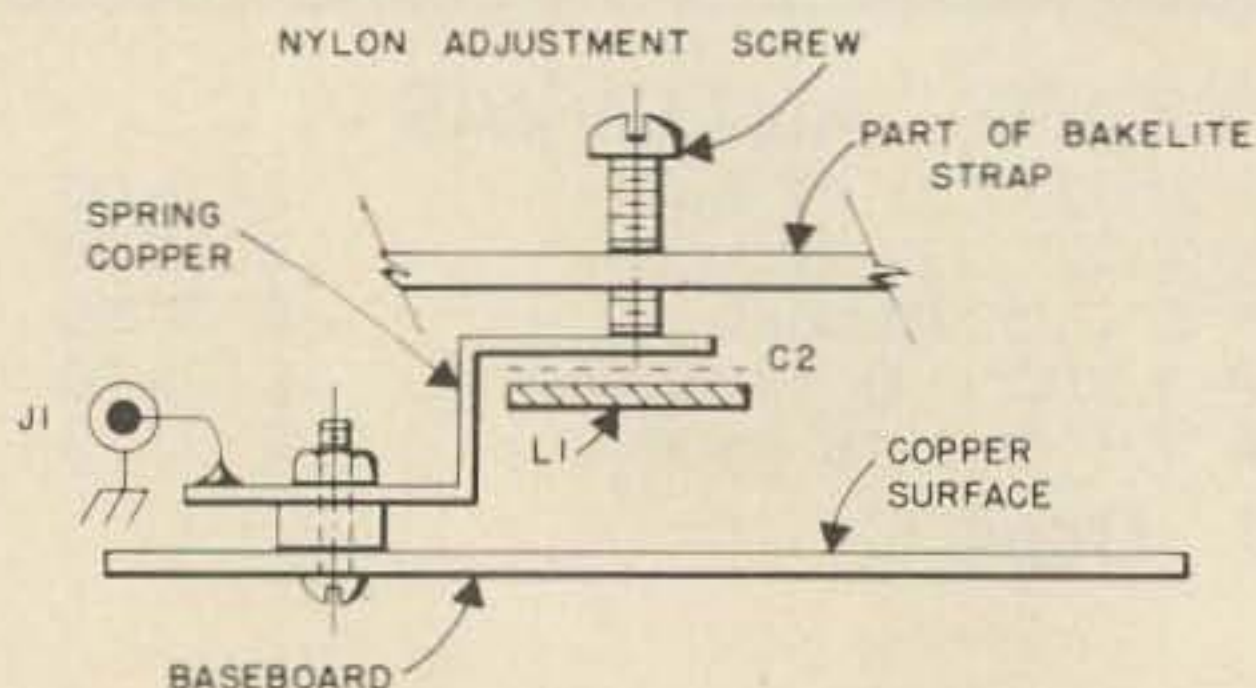

Fig. 1C. End view of the 1296 MHz receiver and C1 detail.
other insulating strap that uses two bolts, as in detail in Fig. 1C.
3. C1 should be made up with care, as in detail shown in Fig. 1C, keeping in mind that the inductance of the movable tab part of C1 should be as low as possible. You could use penny tuning between the baseboard and L1 but that gets more involved mechanically.